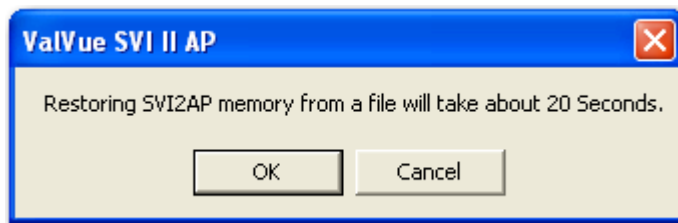

Figure 67 Time Warning
2. Click **OK** and Figure 67 appears.